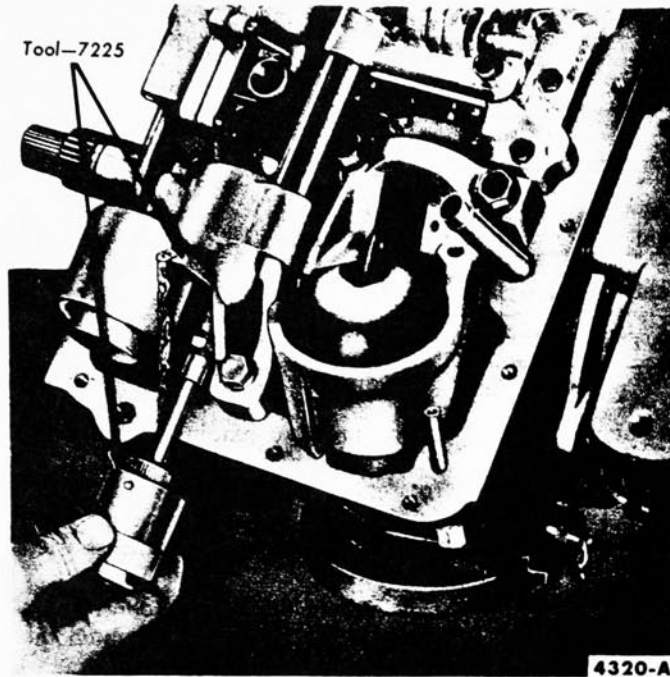
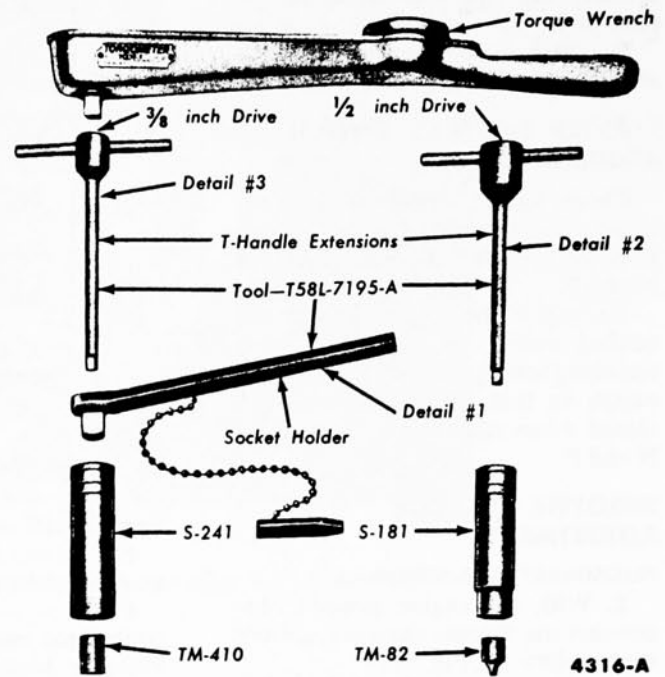

FIG. 8—Front Band Adjustment
FIG. 9—Band Adjusting Tool
tool gauge block (Fig. 8) between the servo piston stem and the adjusting screw. If the tool shown in Fig. 9 is to be used to adjust the front band, the gauge block for this tool should be inserted between the piston stem and the screw.
With the tool shown in Fig. 9
3. Place the socket holder on the $\frac{3}{4}$ -inch socket (Fig. 9). Insert the T-handle extension through the handle and socket.